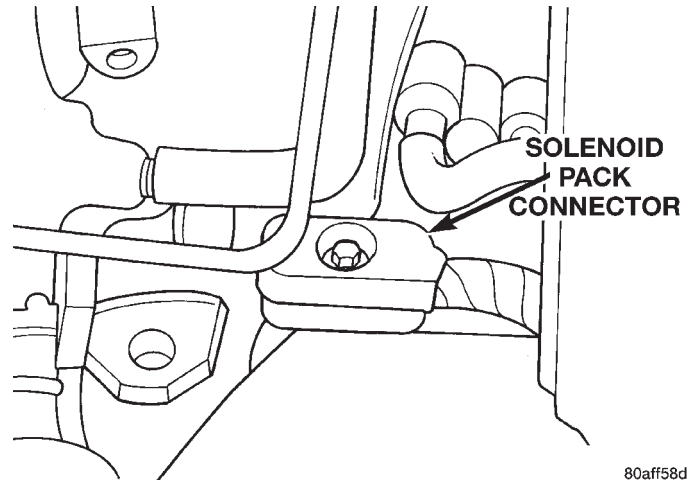
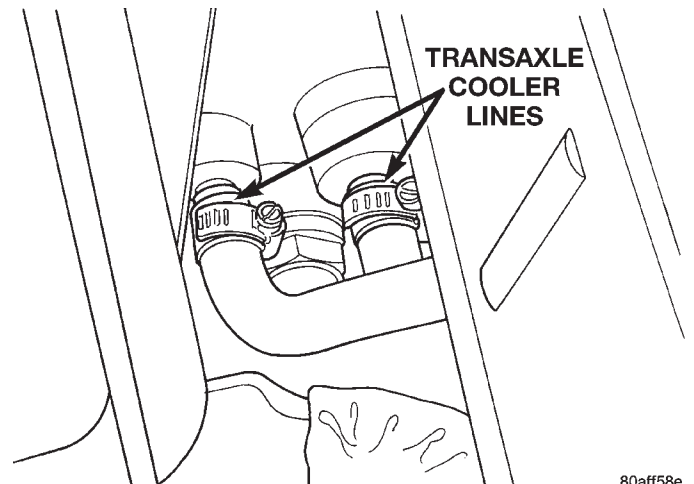

Fig. 50 Solenoid Pack Connector
Fig. 51 Transaxle Cooler Lines
- (4) Remove solenoid pack connector (Fig. 50).
- (5) Remove dipstick tube.
- (6) Remove transaxle cooler lines (Fig. 51).